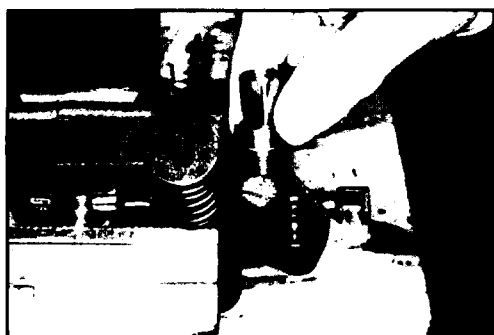

Fig. 14
4. Install the new filter (7) into the inlet port of the injector, grooved side up. The injector inlet port is located above the control rack. See Fig. 14.
5. Install the new fuel injector caps (4) and gaskets (6) into the inlet and return ports of the injector. Torque the caps to 60-70 lbft. (82-95 N•m). Use a deep well socket and torque wrench.